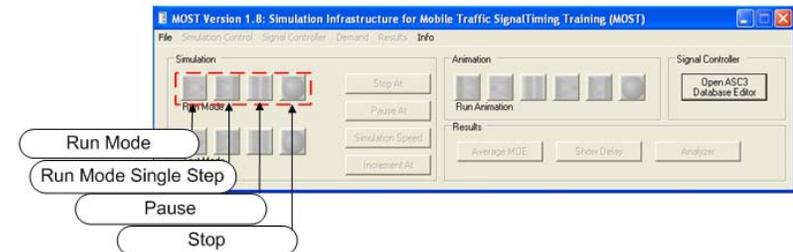

Figure 12 Simulation run options
- You have several options for running the simulation. You will primarily use two options, running the simulation continuously ("Run Mode") or advancing the simulation in 0.1 second time steps ("Run Mode Single Step"). See Figure 12.